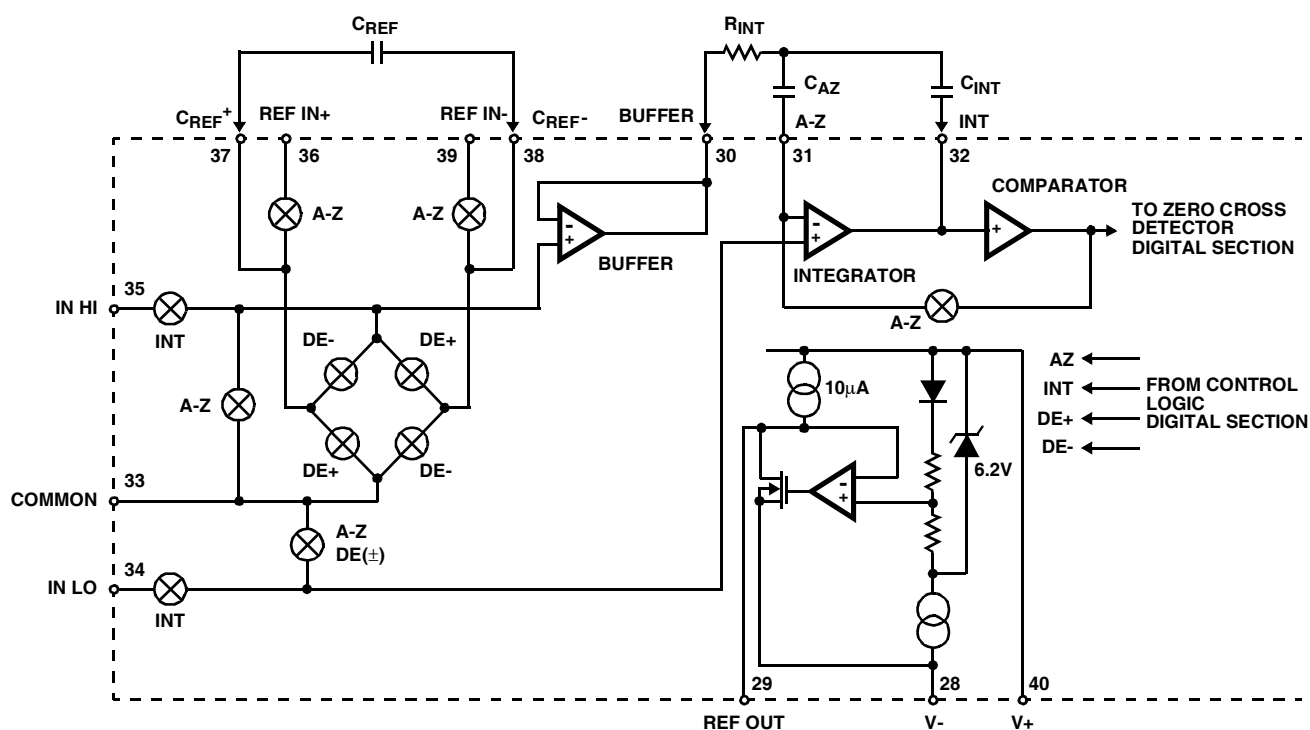
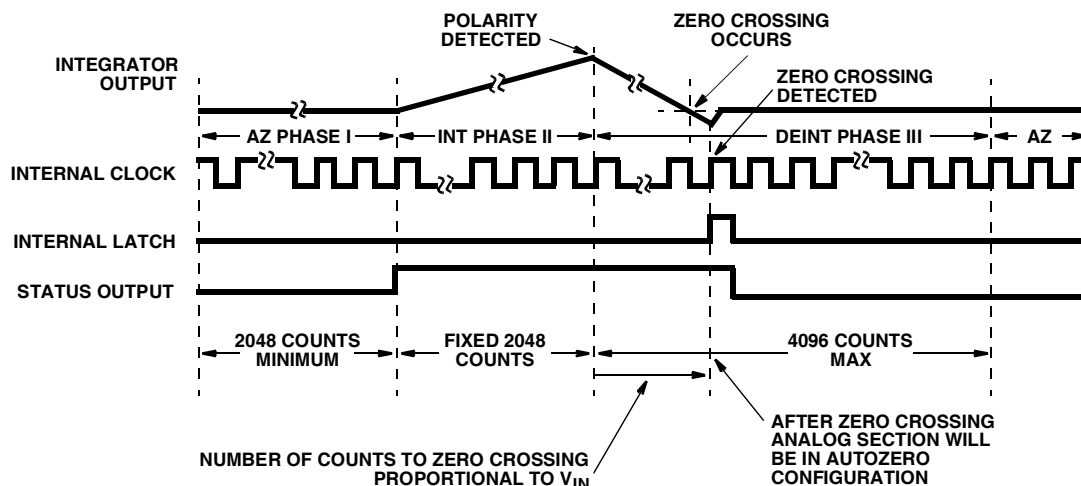

FIGURE 2. ANALOG SECTION OF ICL7109
FIGURE 3. CONVERSION TIMING (RUN/HOLD PIN HIGH)
Figure 2 shows the equivalent circuit of the Analog Section for the ICL7109. When the RUN/HOLD input is left open or connected to $V+$, the circuit will perform conversions at a rate determined by the clock frequency (8192 clock periods per cycle). Each measurement cycle is divided into three phases as shown in Figure 3. They are (1) auto-zero (A-Z), (2) signal integrate (INT) and (3) de-integrate (DE).
During a conversion cycle, the STATUS output goes high at the beginning of Signal Integrate (Phase II), and goes low one-half clock period after new data from the conversion has been stored in the output latches. See Figure 3 for of this timing. This signal may be used as a “data valid” flag (data never changes while STATUS is low) to drive interrupts, or for monitoring the status of the converter.
When the RUN/HOLD input is high, or left open, the circuit will continuously perform conversion cycles, updating the output latches after zero crossing during the Deintegrate (Phase III) portion of the conversion cycle (See Figure 3). In this mode of operation, the conversion cycle will be performed in 8192 clock periods, regardless of the resulting value.